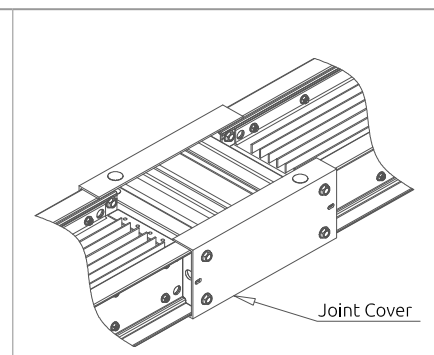

Figure 10.5
7. Placed back all the top side hole plug which removed earlier as shown in Figure 10.5